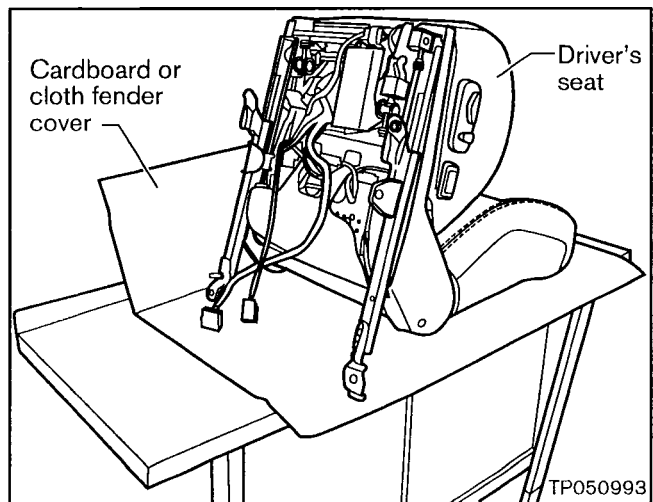

Figure 6
- 2. Carefully remove the seat from the vehicle and place it on a clean, dry work surface as shown in Figure 6.